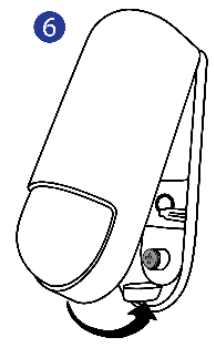

Figure 8
Step 5: Mount the detector on the bracket (see Figure 8)